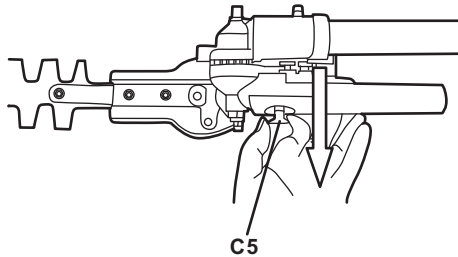

Fig. 20a
a). Pull the locking pin (C5) out. (See Fig. 20a)